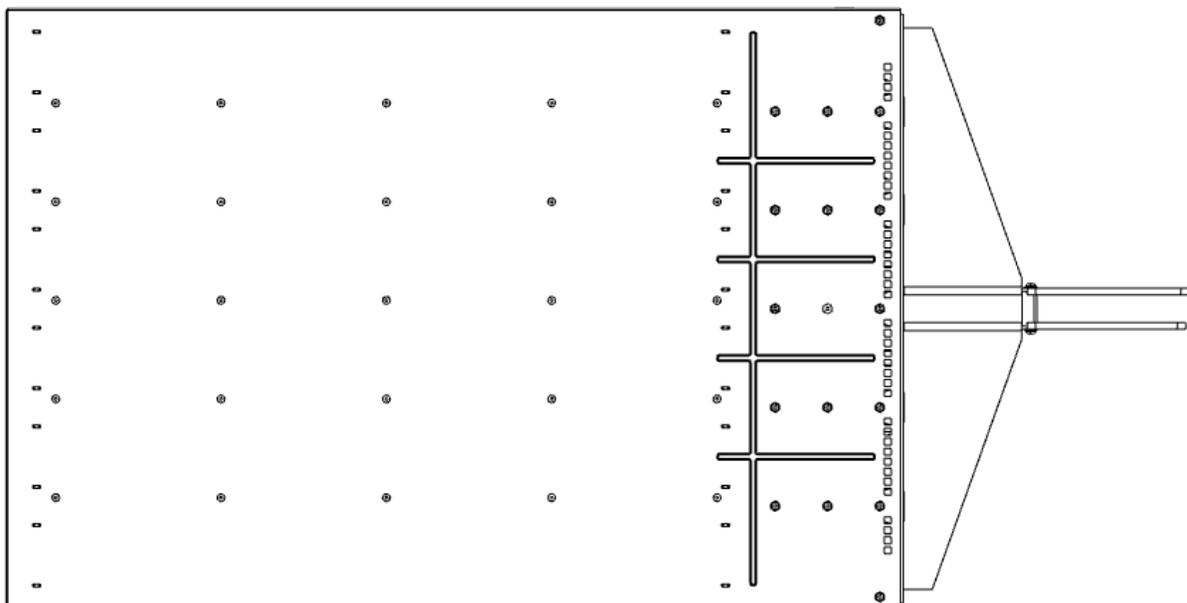

Figure 5. SPSPFE3-04G Top View
3) Reduced the number of holes on Top Cover near output bus bar (see figure 5 and 8).
3) Added embossed section on top cover near output bus bar to improve stiffness (see figure 5 and 8).